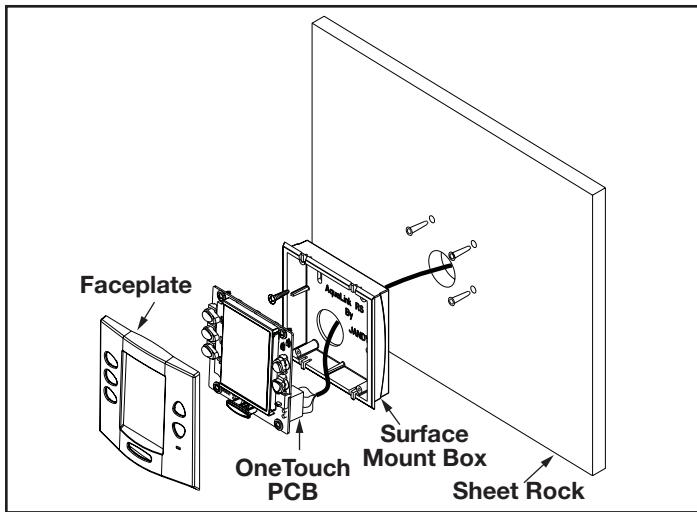

**Figure 23.** Setting Jumpers for Multiple Auxiliary Power Centers
- Never put more than two (2) wires into each of the pins of the red, 4-pin terminal bar (use a Jandy® multiplex board).
- If more than one auxiliary power center is installed, set the jumpers as shown in Figure 23.